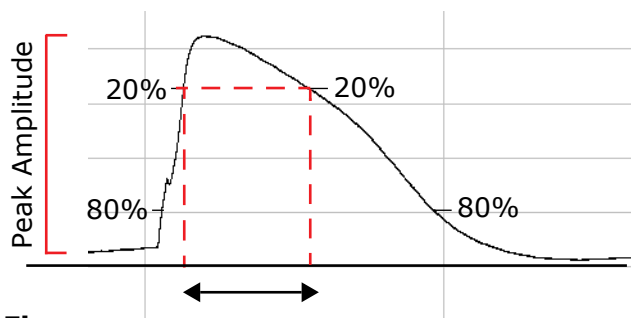

Figure 5-3 Event duration at 20%.
- **Event duration (ms):** The time difference between the beginning and the end of the response determined by the specified percentage of the peak amplitude (see Figure 5-3).